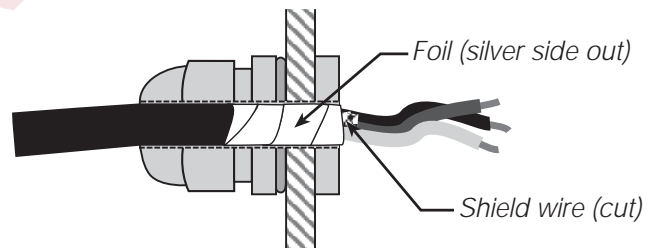

Figure 3. Foil Shielded Cabling
For cables with foil-type shielding, strip an additional 15 mm of insulation from the cable. Cut the foil shield at a location about 15 mm *inside* the enclosure, then fold the foil shield back on the cable (see Figure 3). Ensure silver (conductive) side of foil is turned outward for contact with the metal cord grip.
6. For load cell cables, cut the shield wire just inside the enclosure (see Figure 3). Shield wire function is provided by contact with the metal cord grip.